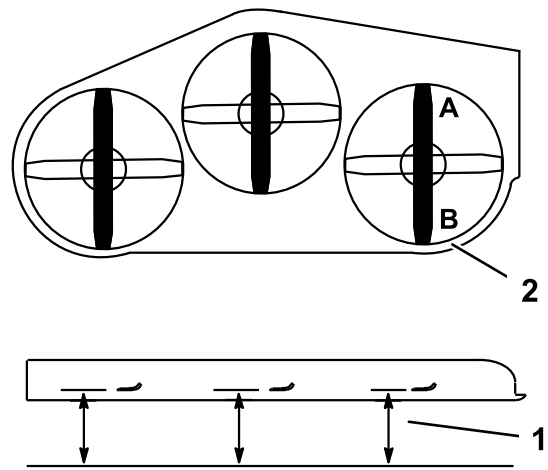

**Figure 95**
1. Loosen the side nut and jam nut in the yokes you want to adjust (Figure 95).
2. Rotate the top bolt of the yokes to adjust the height of the mower deck (Figure 95).